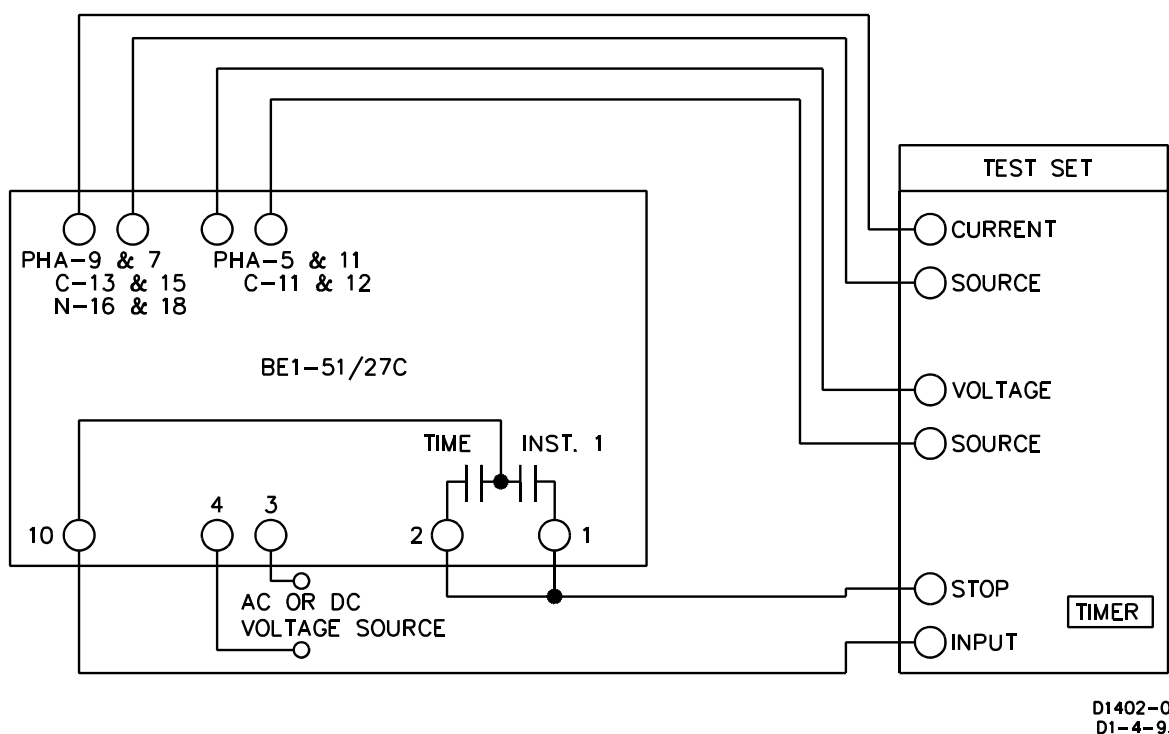

Figure 5-6. Test Setup for Sensing Input Type J (Two-Phase with Neutral Sensing)
- (f) Sensing Input Type J (Two-Phase with Neutral Sensing). Refer to Figure 5-6. Ensure that the timed output terminals 1 and 10 are connected. Also, verify that either A, B, or C current sense terminals are connected initially (N terminals will be connected later in the test).
- (b) Sensing Input Type J (Two-Phase and Neutral Sensing). Remove the power and reconnect the input sensing to the remaining phases as shown in Figure 5-6, each time repeating Steps 1 through 10. For neutral testing continue with Step 12.